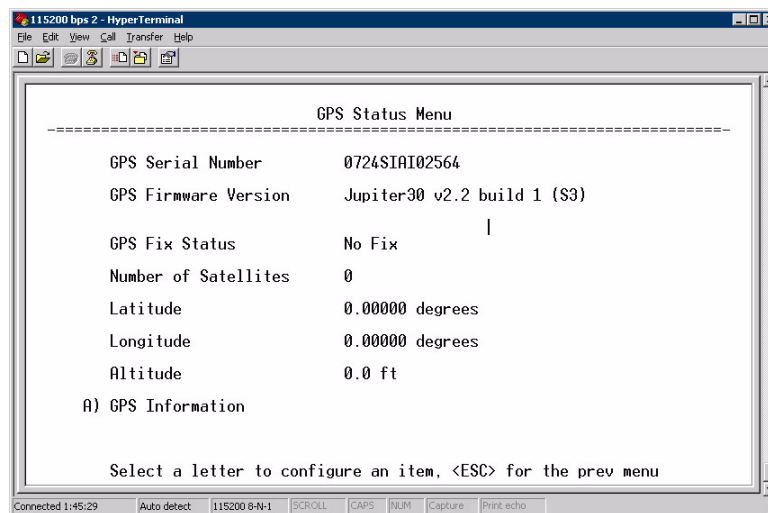

Figure 3-89. GPS Status Menu
- **GPS Status**—Shows satellite fix status, number of satellites being received, and unit location data. (See Figure 3-89 on Page 118 for details.)